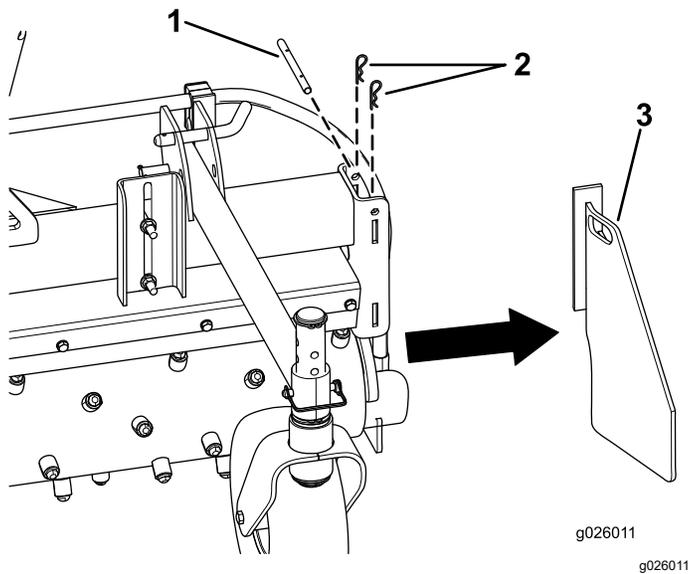

Figure 7
1. Remove the 2 hairpin cotters from the end-plate pin (Figure 7).
2. Remove the end-plate pin from the end plate (Figure 7).
3. Remove the end plate (Figure 7).